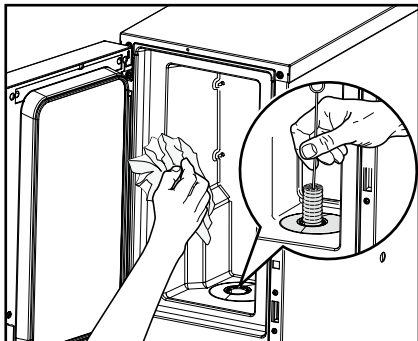

Fig. 25
4. Clean the interior of the cooling compartment with a clean, damp cloth and the doser opening with a brush (fig. 25).